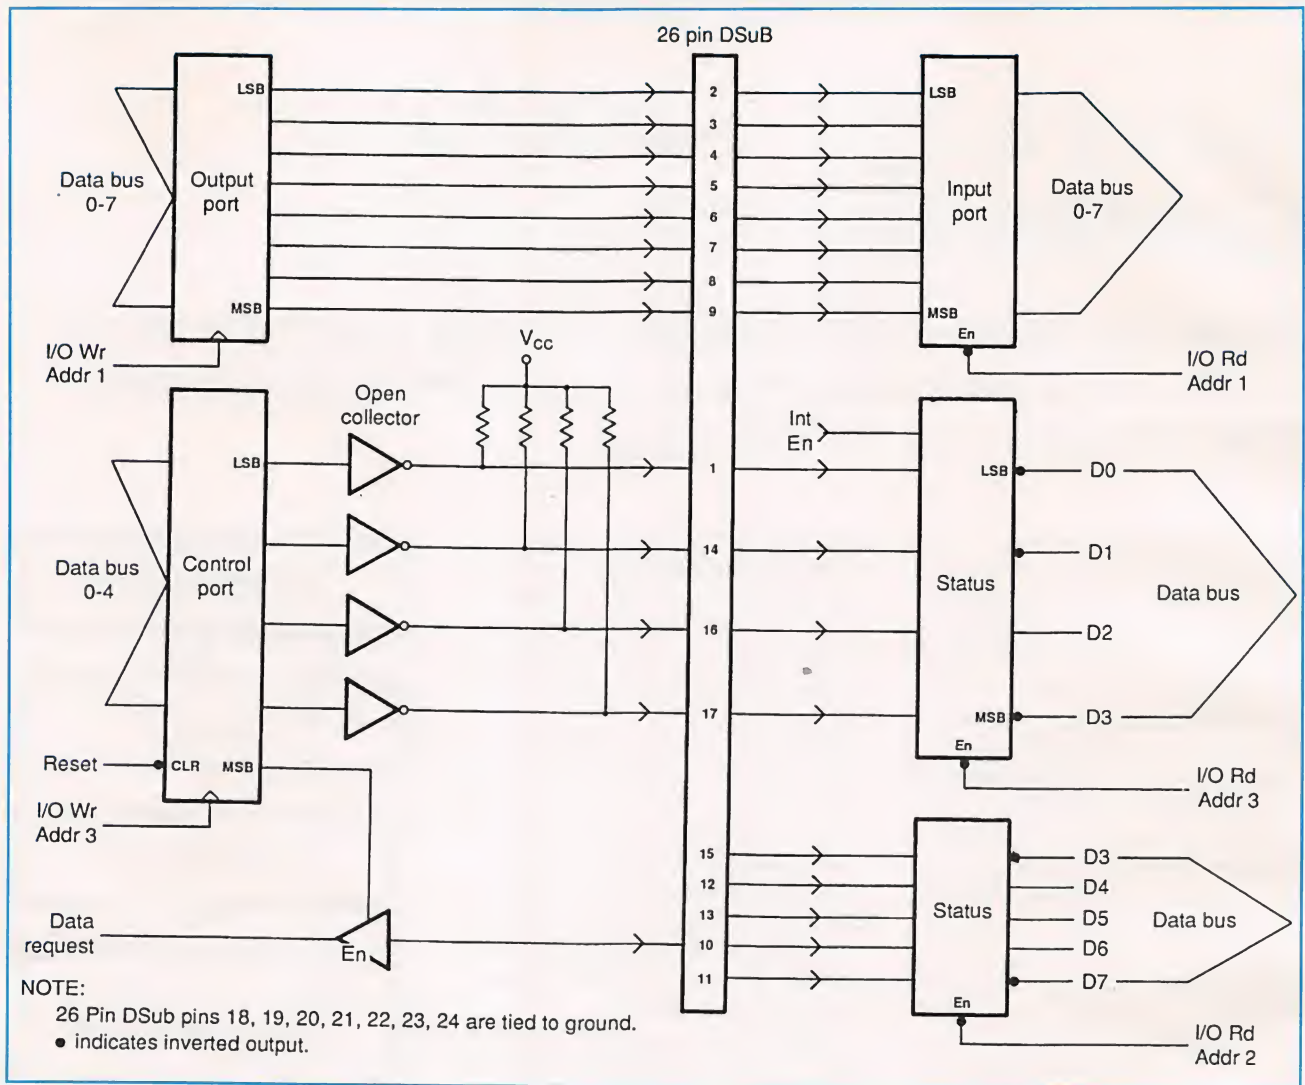

Fig. 2. Block diagram of fuzzy-logic interface circuitry
• **Parallel Printer Interface.** A block diagram of the printer port's hardware is shown in Fig. 2. (See the May/June issue of *MicroComputer Journal* for a complete explanation of the parallel port's hardware.). Table 1 lists the addresses for each of the three ports.